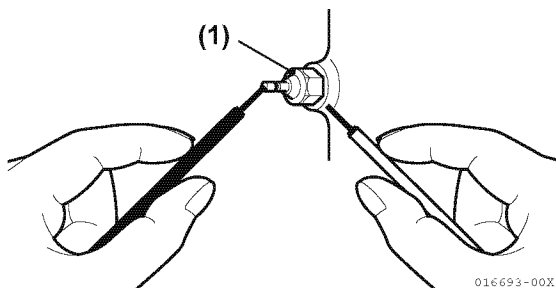

Figure 8-2
4. Disconnect oil pressure switch connector. Keep voltmeter probes in contact with switch terminal and cylinder block while operating engine. Replace oil pressure switch (**Figure 8-2, (1)**) if circuit is indicated closed.